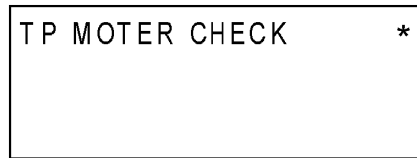
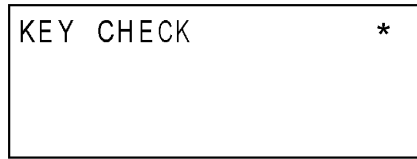
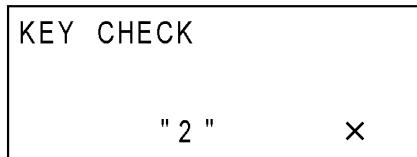

Fig. 23
Fig. 19
Fig. 26
- (6) Press the "G" key while the LCD displays as shown in Fig.20. The display shifts to the Tape Control Motor Excitation-Phase Check Mode as shown if Fig. 23.
- (6) Press the “6” key while the LCD displays as shown in Fig.23. The display shifts to the Key Check Mode as shown if Fig. 19.
- (2) The display as shown in Fig.19 indicates a key to be pressed. When the pressed key is proper, it will indicate a next key to be pressed. When the pressed key is not proper, it will indicate the key to be pressed and also display "X" as shown in Fig.26.